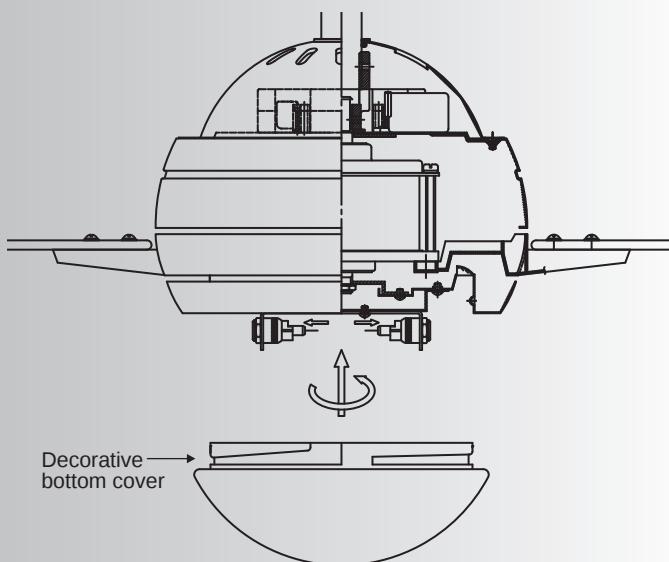

Fig. 18a
Step 3. If installing the optional switch cup cover, securely tighten. (Fig. 18a)